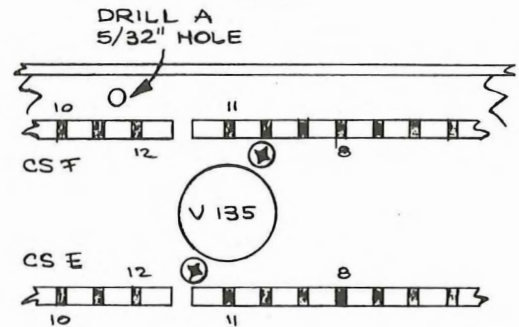

Fig. 1
- ( ) 1. Drill a 5/32 in. hole in the plug-in chassis near V135 (see Fig. 1).